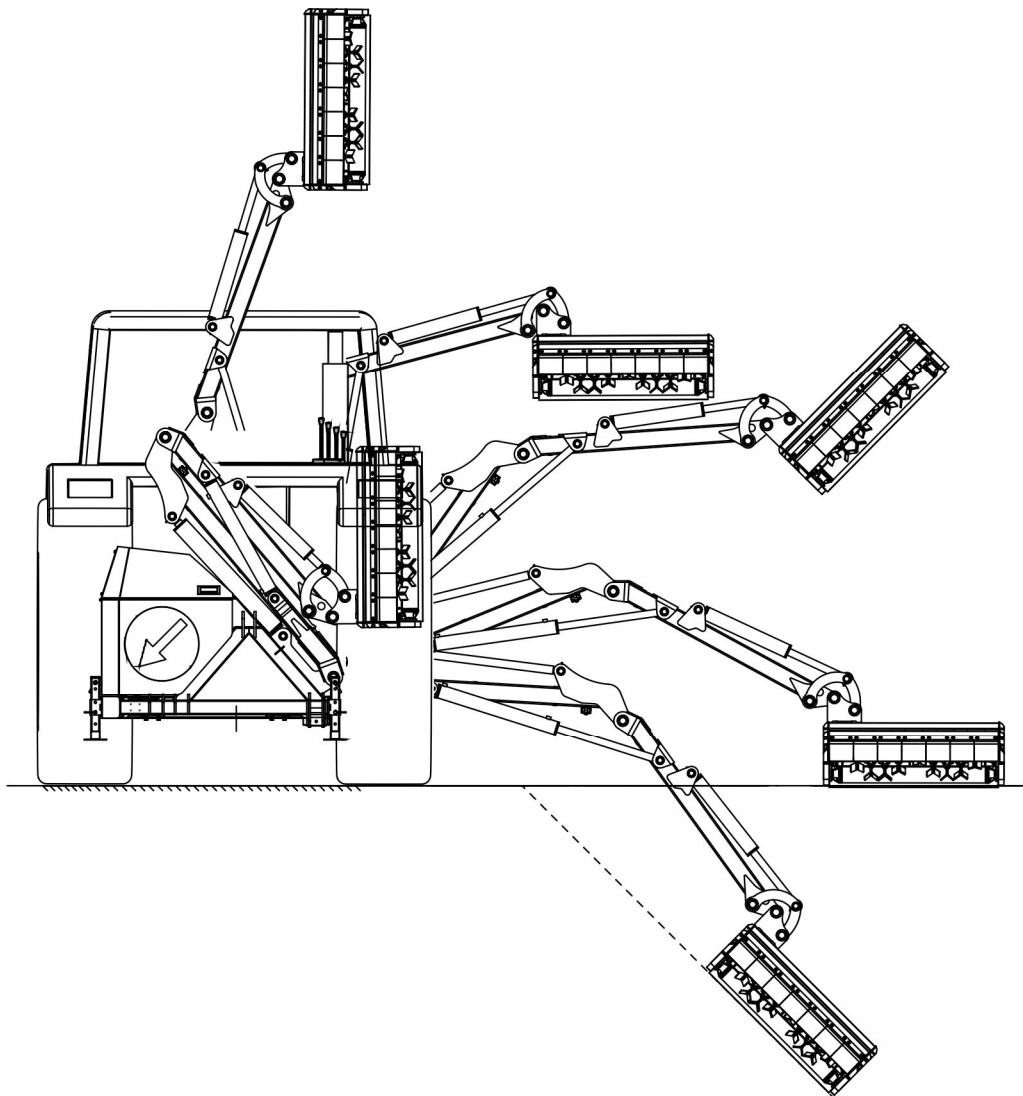

FIGURE 4.11 Examples of working positions of the multifunction arm with mowing head GK80L.
- operate appropriate hydraulic cylinders of the multifunction arm in order to place the working head in the working area (FIGURE 4.11);